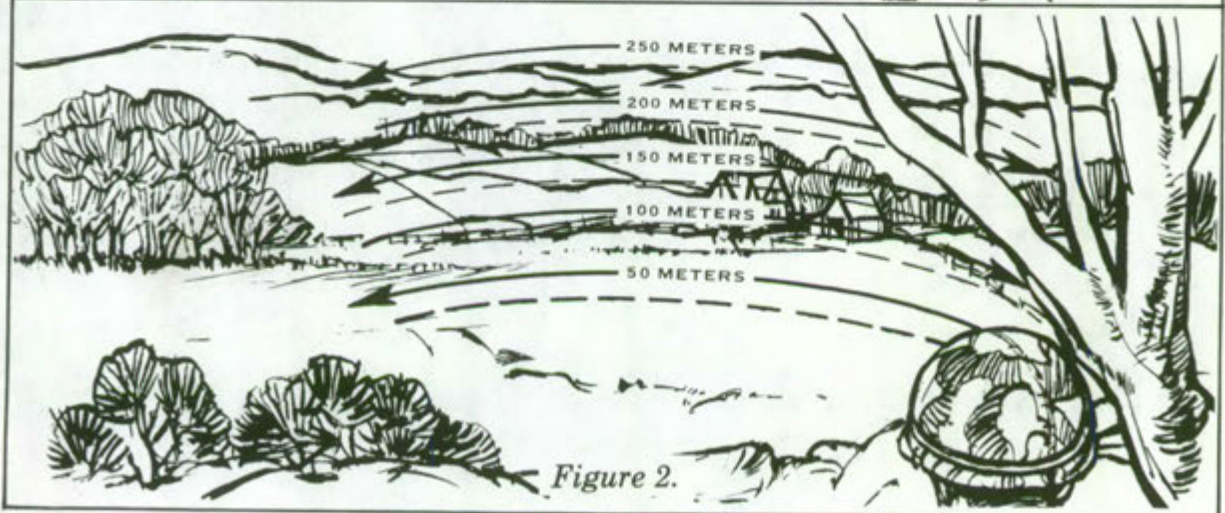

Figure 2.
b. Observe overlapping, 50-meter-deep strips of terrain in detail, alternately searching left to right, right to left, etc. (figure 2).